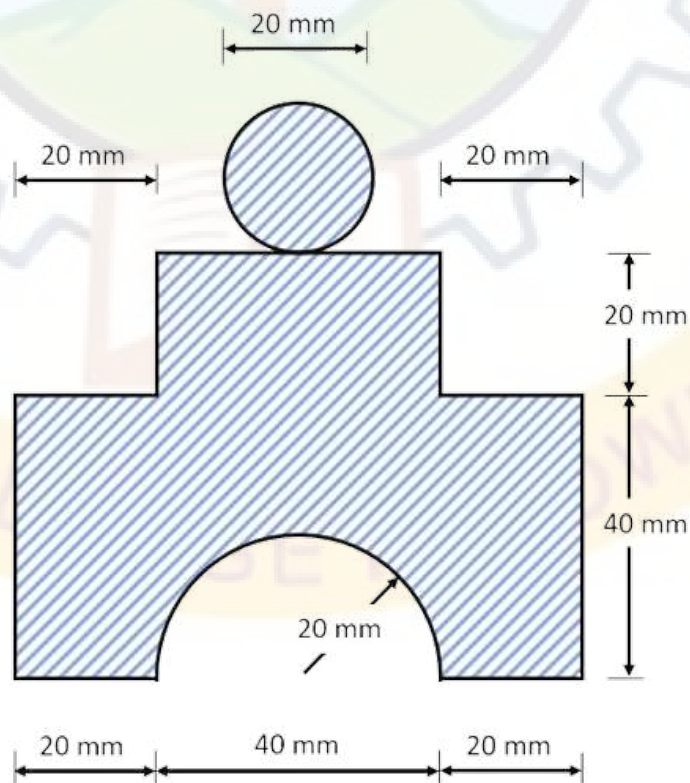

Figure 10
18. Determine the moment of inertia and radius of gyration of the given area shown in Figure 10 about the horizontal centroidal axis.